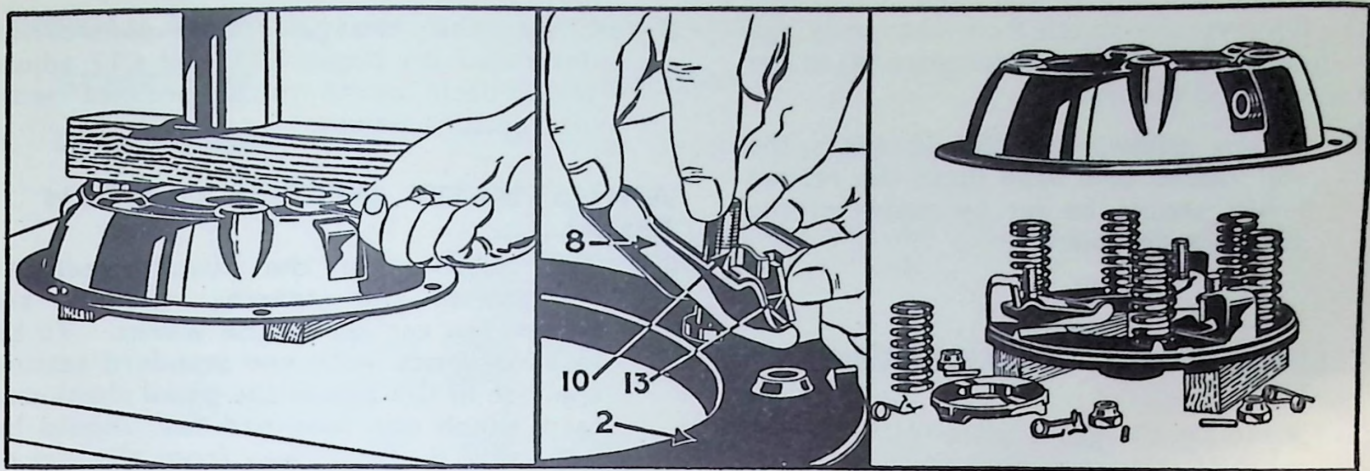

Fig. 2. 8.—Release Lever. 10.—Eye Bolt. 13.—Strut. 2.—Pressure Plate.
When reassembling, make sure that the markings coincide, and if new parts have been fitted which would affect the adjustments, set the release levers by means of the lever adjustment gauge obtainable from Messrs. Borg & Beck, Leamington Spa, England. Gauge Plate, Service No. CG10516. See Figs. 2 and 3, page C5.
- (1) Detach the release lever plate (4) from the retainer springs (7) and place the cover assembly on the bed of a press with the pressure plate (2) resting on blocks, so arranged that the cover is free to move downwards when pressure is applied.
- (2) Place a block of wood across the cover, see Fig. 2, resting on the spring bosses, and compress the cover by means of the ram. Remove the nuts (12) which should be released by exerting sufficient turning pressure to shear the peening. Slowly release the pressure to prevent the thrust springs from flying out.
- (3) Remove each release lever (8) by holding the lever and the eyebolt (10) between fingers and thumb so that the inner end of the lever and the threaded end of the eyebolt are as close together as possible. Lift the strut (13) over the ridge of the lever and remove the eyebolt from the pressure plate.
- (1) Assemble one release lever (8), eyebolt (10) and eyebolt pin (9) holding the threaded end of the eyebolt and the inner end of the release lever as close together as possible. With the other hand insert the strut (13) in the slots in the pressure plate sufficiently to allow the plain end of the eyebolt to be inserted in the hole in the pressure plate. Move the strut upwards into the slots in the pressure plate lug, over the ridge on the short end of the lever and drop it into the groove formed in the latter. Fit the remaining release levers in a similar manner. See Fig. 2.
- (2) Place the pressure plate (2) on blocks on the bed of the press and arrange the thrust springs (3) in a vertical position on the plate, seating them on bosses provided. See Fig. 2.
- (3) Lay the cover over the assembled parts, ensuring that the anti-rattle springs (11) are in position, that the tops of the thrust springs are directly under the seats in the cover, and that the machined portions of the pressure plate lugs are under the slots through which they have to pass.
- (4) Place the block of wood across the cover resting on the spring bosses, and compress the cover by means of the ram, guiding the eyebolts and pressure plate lug through their respective holes. Screw the adjusting nuts (12) on to the eyebolts (10) and secure by staking. Operate the